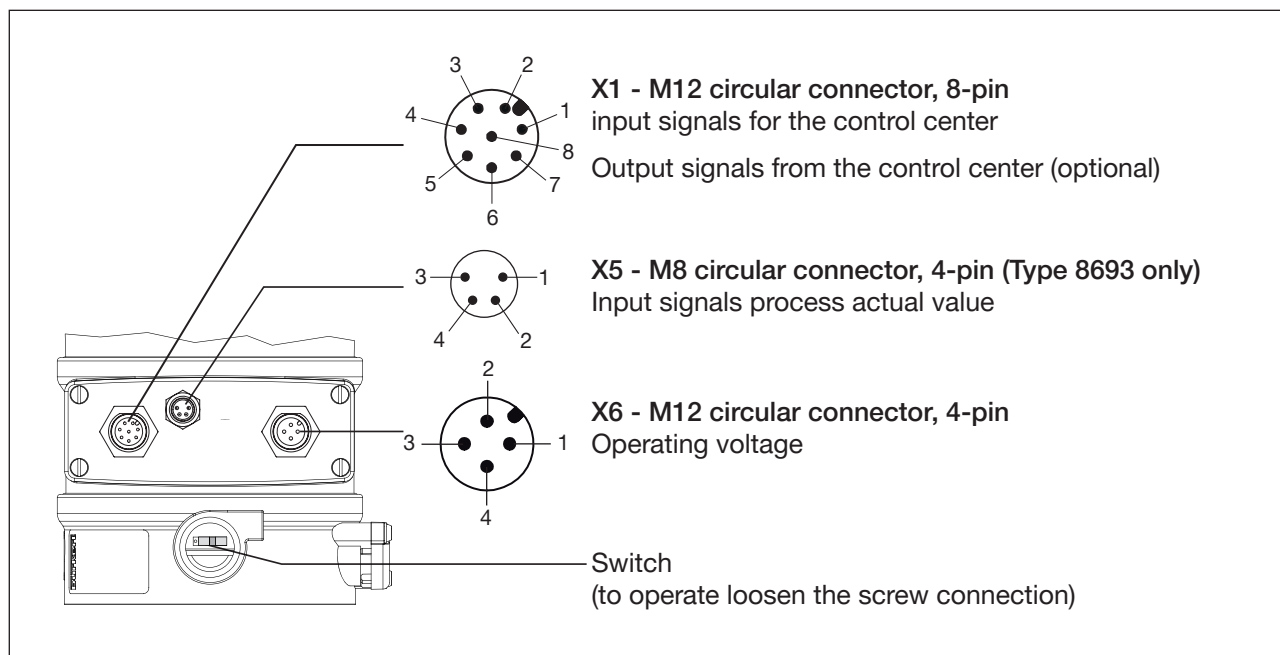

Figure 28: Electrical connection with 24 V DC circular plug-in connector
** Position of the switch, see „Figure 28: Electrical connection with 24 V DC circular plug-in connector“.